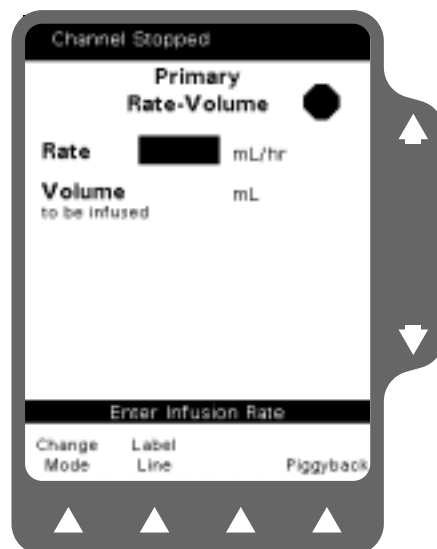

Figure 3-16 Rate-Volume Programming Screen
The display then changes to the Rate-Volume programming screen and the Rate field is highlighted (Figure 3-16).
2. Program the desired flow rate (in mL/hr) using the keypad (Figure 3-16).